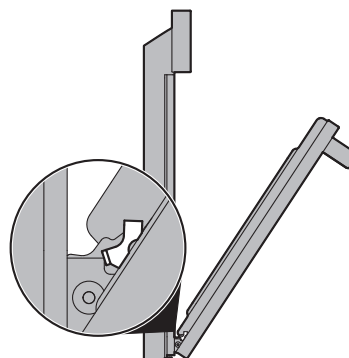

Figure 16: Removal position
3. Grasp the door by the sides, and close the door until the door frame makes contact with the unlocked hinges (Figure 16).
2. Hold the oven door at the same angle as the removal position (Figure 16). Carefully insert the hinge levers into the oven frame until you feel the hinge levers are seated into the hinge notches. The hinge arms must be fully seated into the hinge notches before the oven door can be fully opened..